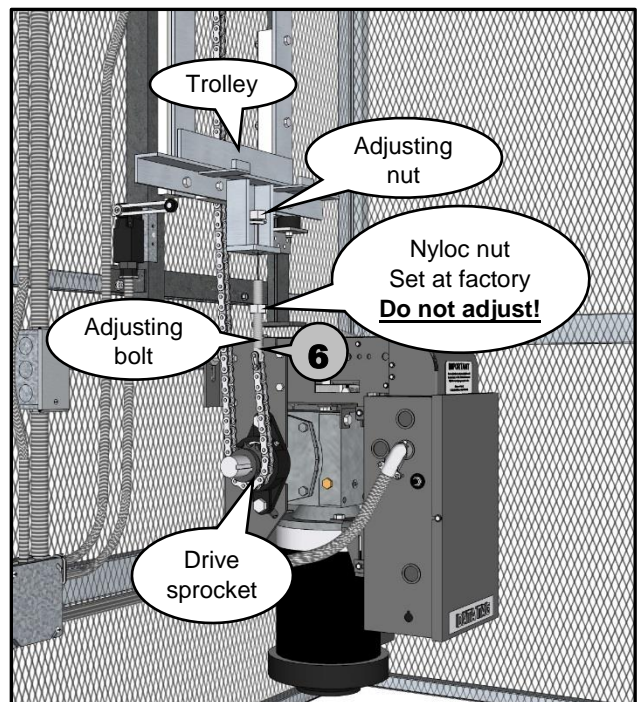

Figure 21
- 6** The other end of the chain should hang down behind the trolley and be placed around the drive sprocket of the motor. Then insert the threaded adjusting bolt on the end of the chain into the hole on the bottom of the trolley where the adjusting nut is tied on. Use the adjusting nut to secure the adjusting bolt to the trolley. Use a blade screwdriver or needle nose pliers to hold chain from twisting and tighten adjusting nut until Nyloc nut is tightly seated against trolley. **Do not adjust Nyloc!** (see Figure 21)